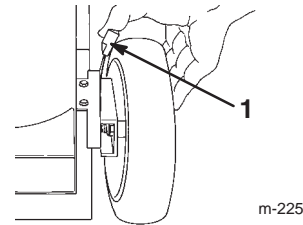

Figure 12
- Pull the wheel height adjustment lever toward the wheel (Fig. 12) and move it to the desired setting.